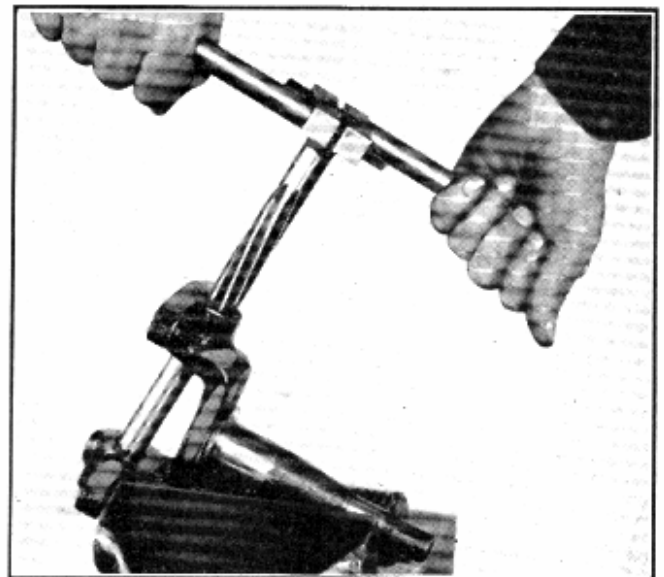

Fig. 49—Reaming Steering Knuckle Bushings
6. To ream or hone the king pin bushing use either an extra long tool, or one with a long pilot, Fig. 49, so that the operation will keep both bushings in correct alignment and will not cause a binding when the king pin is installed.